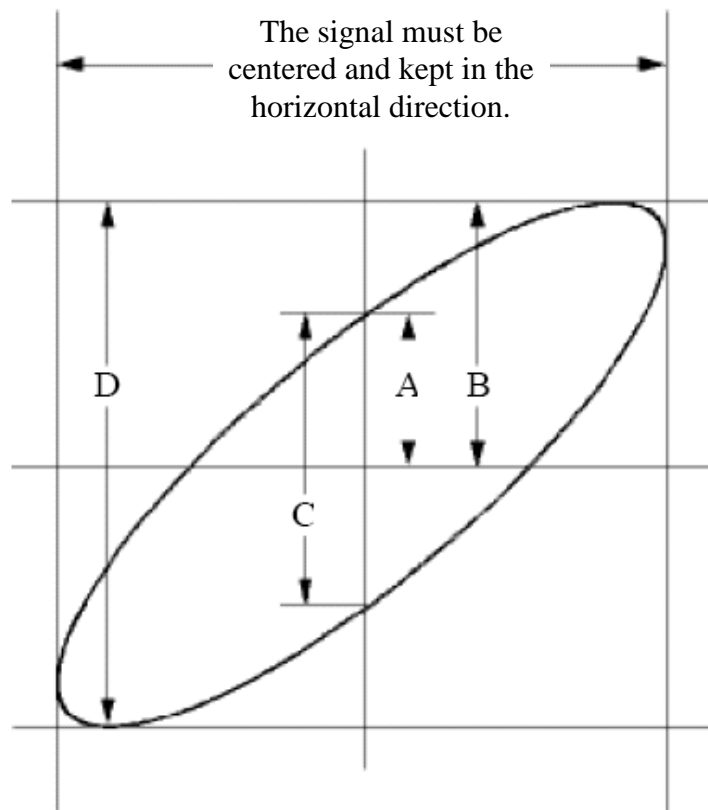

Figure 7-6 Lissajous Graph
- (7) Turn the **VOLTS/DIV** and **VERTICAL POSITION** knobs, optimizing the waveform.
- (8) With the elliptical oscillogram method adopted, observe and calculate the phase difference (see *Figure 7-6*).